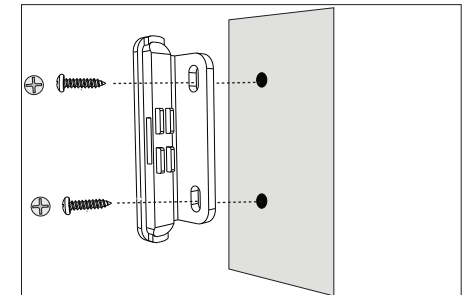

Figure 4.6: Mounting bracket using screws
4. Continue with *Section 4.4*. If using screws, mount the bracket first, then replace the magnet cover. Refer to *Figure 4.6*.